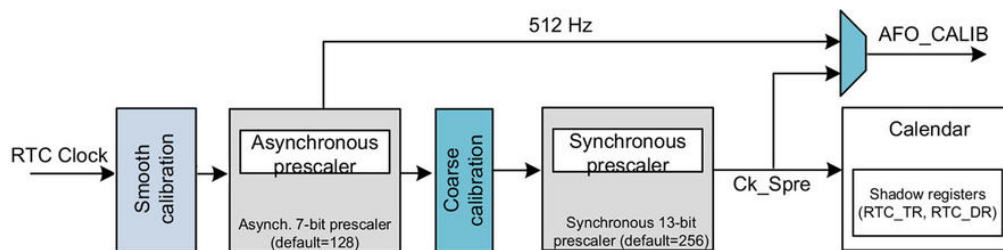

Figure 3: The structure of the RTC clock distribution
- It is not possible to check the calibration result, as the 512Hz output is before the calibration block (see Figure 3⁴). You can check the calibration in some STM32 MCUs, as the 1Hz `CK_Spre` output is after the coarse calibration block. Refer to the reference manual for your MCU.
When the reference clock detection is enabled, both *asynchronous* and *synchronous* prescalers must be set to their default values: 0x7F and 0xFF. When the reference clock detection is enabled, each 1Hz clock edge is compared to the nearest reference clock edge (if one is found within a given time window). In most cases, the two clock edges are properly aligned. When the 1Hz clock becomes misaligned due to the imprecision of the LSE clock, the RTC shifts the 1Hz clock a bit so that future 1Hz clock edges are aligned. The update window is three `ck_calib` periods (`ck_calib` is the output of the coarse calibration block - see **Figure 3**).